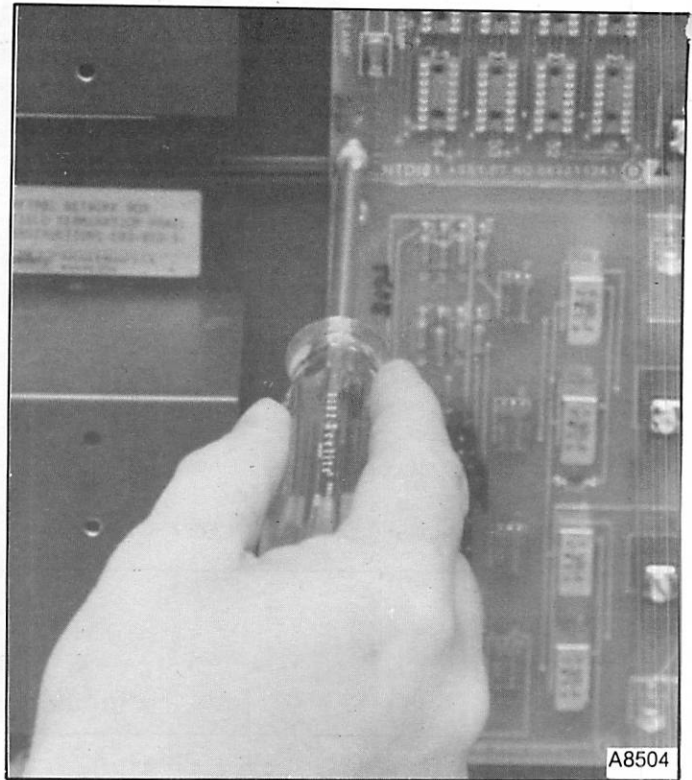

FIGURE 21 — Threading Screws to Secure TD101.
e. Thread screws through panel mounting slots ("stand-off") and "tabs" (see Figure 21).